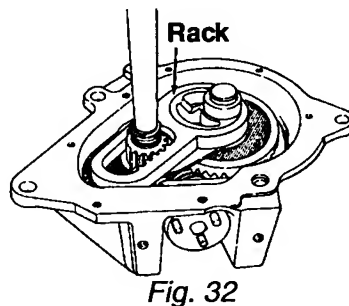

*Fig. 27*
3. When the motor turns counterclockwise, the main drive gear in the gearcase will turn clockwise, putting the washer into an agitation mode. (Fig. 27)